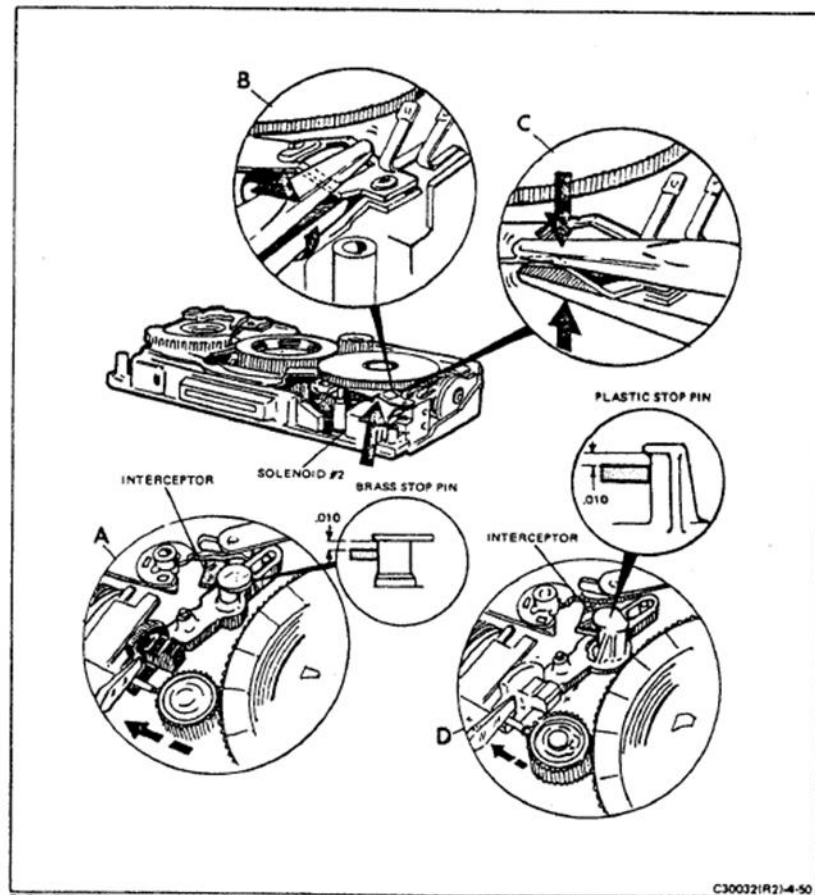

FIGURE 4-50 ADJUSTING STROKE OF SOLENOID #2
The following procedure should be used to check the stroke of solenoid #2. Refer to Figure 4-50 when performing this procedure.
- g. Inspect for correct intercept as shown in insets A and D of Figure 4-50. (The interceptor should not touch solenoid #2 frame.)
- (1) Break loctite bond on solenoid #2 screw using jeweler's screwdriver.
- (2) If the loctite bond cannot be broken, bend the pull-down bar with a needle-nose pliers (at the point shown in the illustration) as follows: